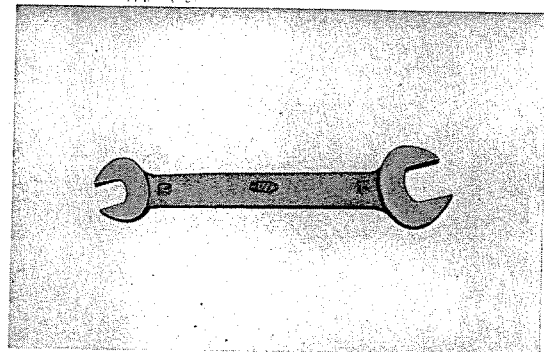

Fig. 6.32 Tools required for adjustment of front brake
- a. Tools required for front brake adjustment. (Refer to Fig. 6.32)